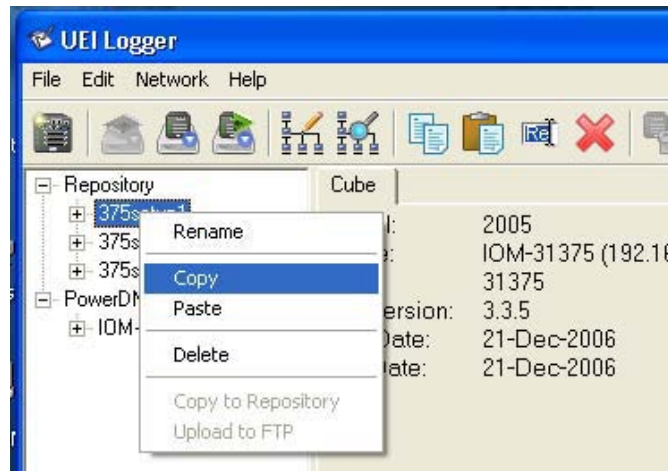

Figure 2-8. Copying a Configuration to a Cube - Step 2
STEP 2: Right-click on the setup to be copied and select Copy, as shown in **Figure 2-8**.